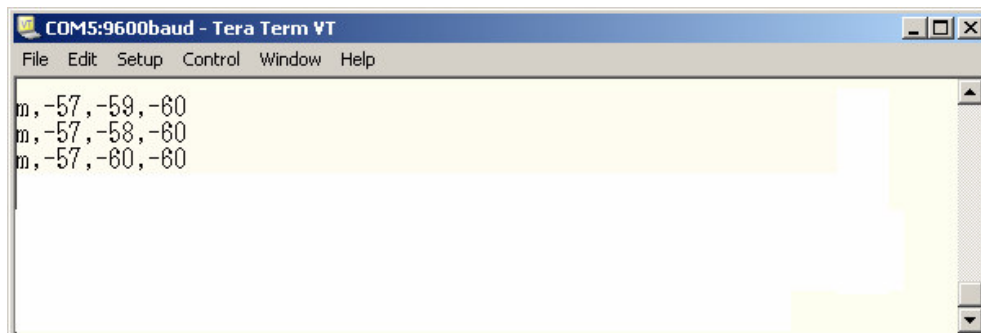
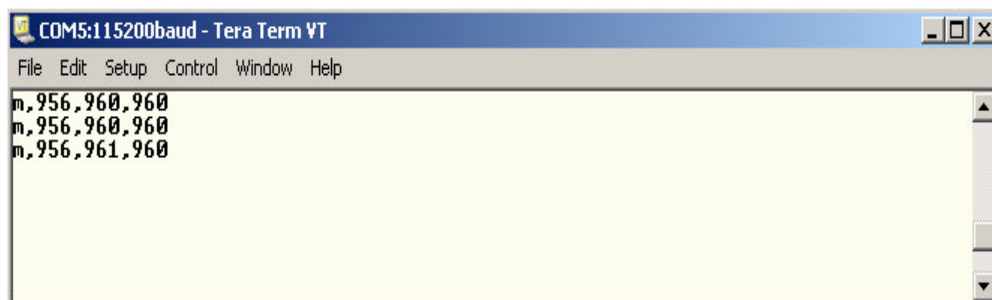

Figure 4.4 White surface detection with sercom version 1.1.5 or older
Figure 4.5 White surface detection with sercom version 1.1.6
- 6) To verify if the sensor detects white colour, enter "M" while placing the *e-puck* on a white surface. If your **sercom.hex** is version 1.1.5 or older, all data you get should be negative as in Figure 4.4. If using the latest sercom.hex version 1.1.6 as in Figure 4.5, the data should be around 950.